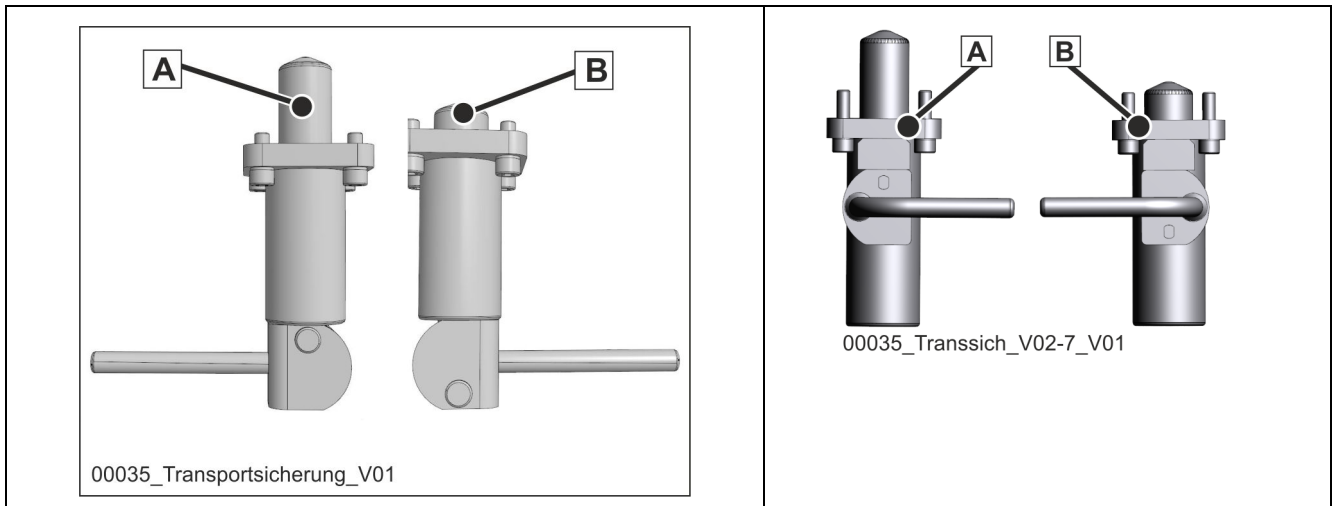

Fig. 136 Transport safety devices
- Loosen the transport safety devices (**Fig. 136**) on all outriggers before moving the outriggers, if this is provided for in the design.
Caption (Fig. 136)